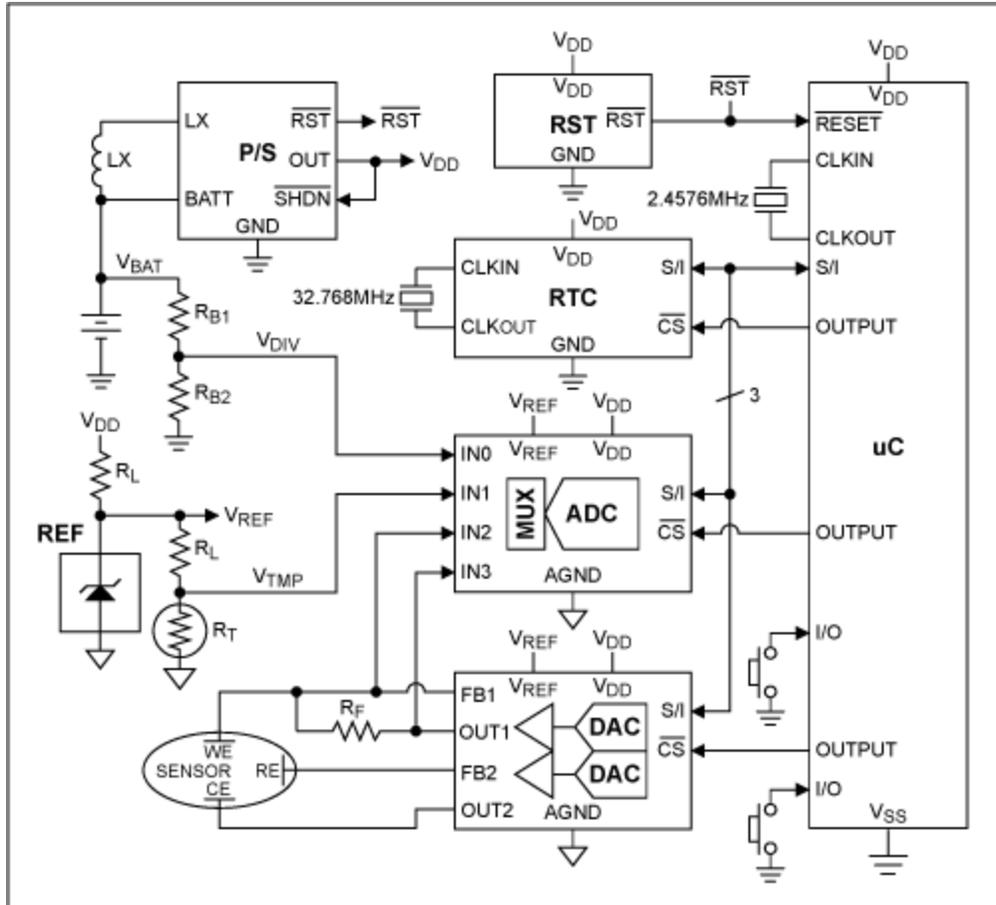

Figure 1. Portable system functional block diagram with discrete standard components.
**Figure 1** shows the functional block diagram for a portable data acquisition system (DAS) using discrete components. The system includes power, analog, and digital circuitry. The power is derived from the batteries, with a power supply for a regulated output voltage. The battery voltage can be measured on demand with the A/D converter and there are reset circuits for the battery and the regulated output voltage. The analog includes the analog front end (AFE) circuitry (which may include D/A converters, opamps, and analog switches) to interface with an electrochemical sensor, a thermistor circuit to measure temperature, an A/D converter with an input multiplexer, and a voltage reference for use with the AFE, thermistor, and A/D converter. The digital circuitry includes a 32kHz oscillator, real-time clock (RTC), and a microcontroller ( $\mu$ C) including a high-frequency crystal, external interrupts for the user interface, internal memory, and possibly other peripherals, such as a liquid crystal display (LCD) bias and driver circuit to interface to an LCD.
The sensor shown in Figure 1 is an electrochemical type sensor configured in a counter configuration where the working electrode (WE) is biased via the FB1 pin. The external resistor between FB1 and OUT1 configures the force/sense D/A converter as a transimpedance amplifier to measure the current through the sensor. The reference electrode (RE) is biased via the FB2 pin, and the feedback loop is closed through the sensor impedance to the OUT2 pin to regulate a constant potential between WE and RE over varying sensor currents.